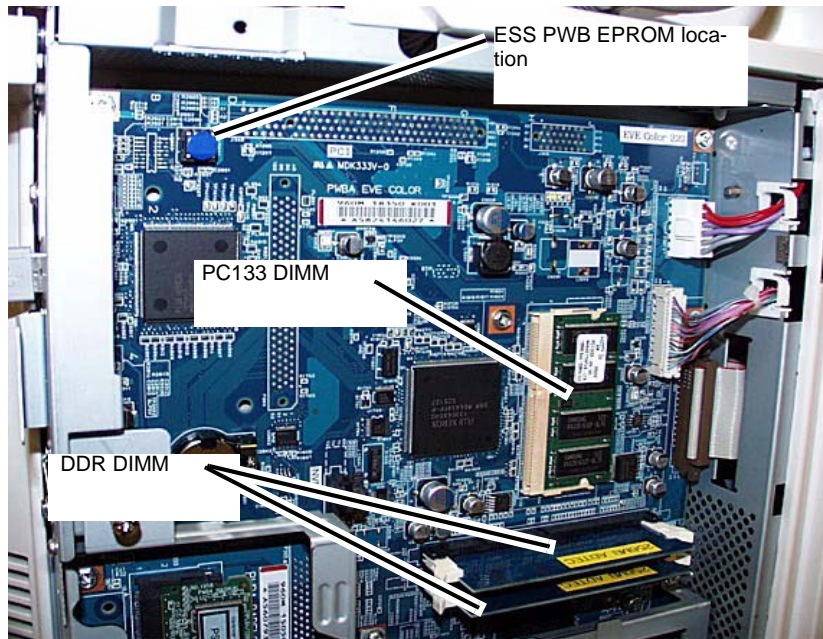

Figure 9 DDR DIMM, PC133 DIMM and ESS PWB EPROM Location
16. If a new ESS PWB will be installed, remove the DDR DIMM (2), the PC133 DIMM (1) and the EPROM from the old ESS PWB and save for installation on new ESS PWB. (Figure 9)